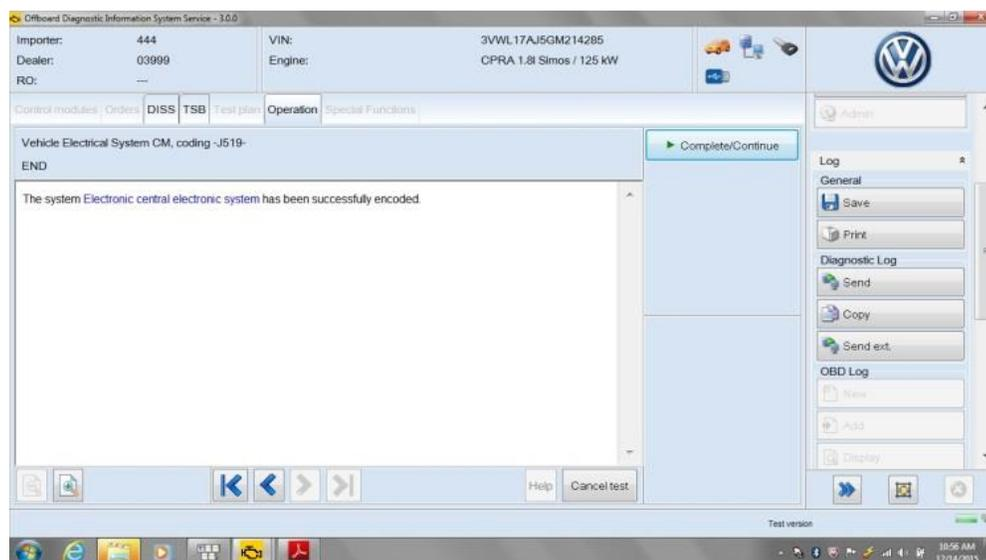

Figure 15
- Next should state Electronic central electronic system has been successfully encoded. (Figure 15)